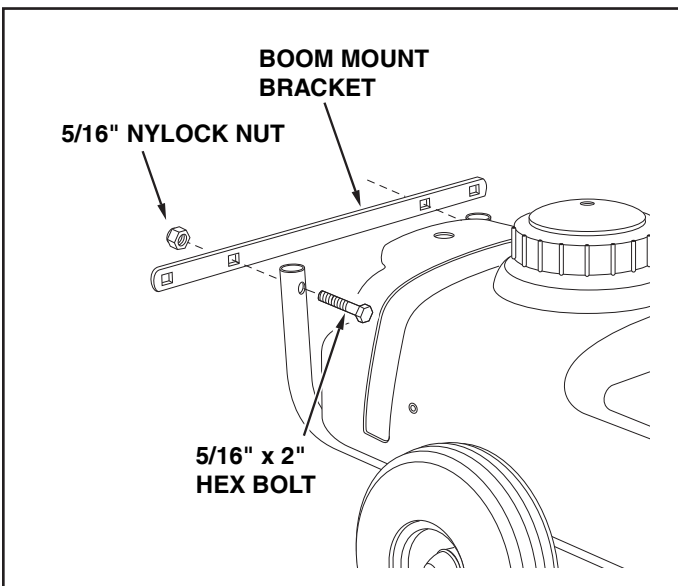

FIGURE 5
- Assemble the boom mount bracket to the rear of the hitch tubes using two 5/16" x 2" hex bolts and 5/16" nylock nuts. See figure 5.